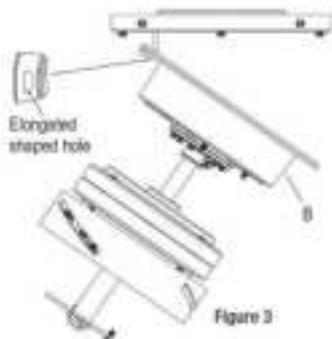

Figure 3
- Carefully lift the fan-motor assembly (B) and hang the fan-motor assembly (B) on the back of the mounting plate (A) by utilizing the hole edge trim of the fan-motor assembly plate (B) and make sure it is securely suspended. Figure 3.